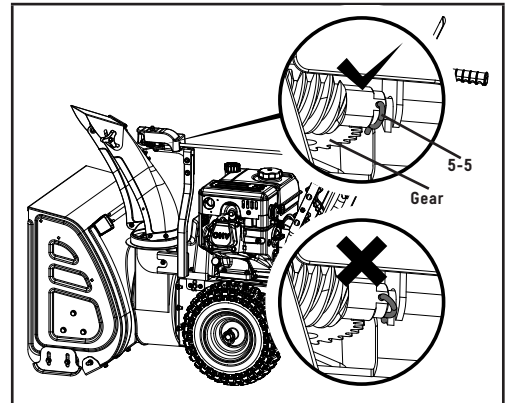

Figure 10B
3. Align the lever and the gear, and then connect the R pin (5-5). (Fig. 10B)
Ensure the R pin is positioned as shown in Fig. 10B.